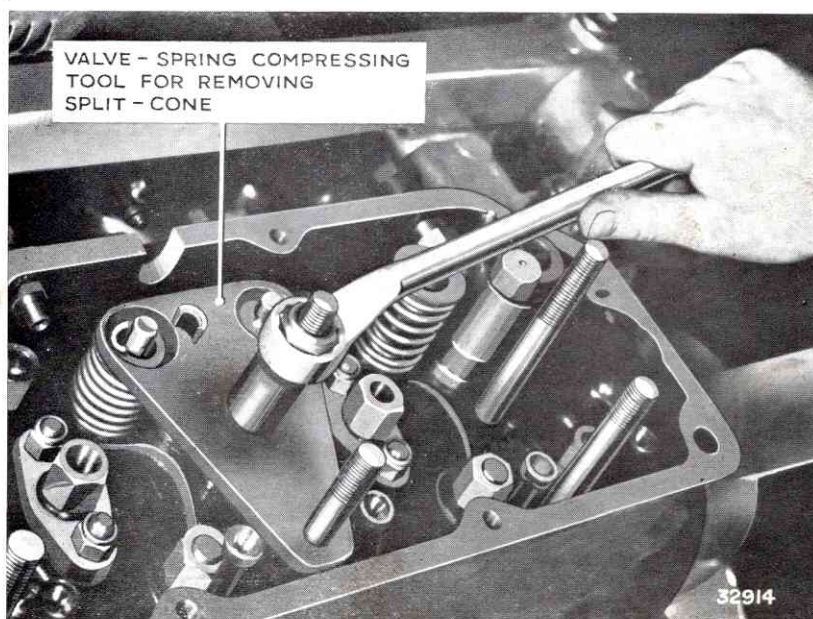

FIG. 21. VALVE SPRING COMPRESSING TOOL
2. Extract the split cone (Fig. 21) and remove the